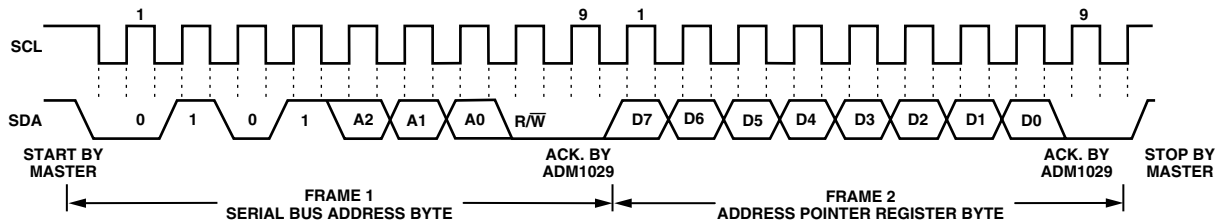

Figure 4b. Writing to the Address Pointer Register Only
1. If the ADM1029's Address Pointer Register value is unknown or not the desired value, it is first necessary to set it to the correct value before data can be read from the desired data register. This is done by performing a write to the ADM1029 as before, but only the data byte containing the register address is sent, as data is not to be written to the register. This is shown in Figure 4b.
2. If the Address Pointer Register is known to be already at the desired address, data can be read from the corresponding data register without first writing to the Address Pointer Register, so Figure 4b can be omitted.